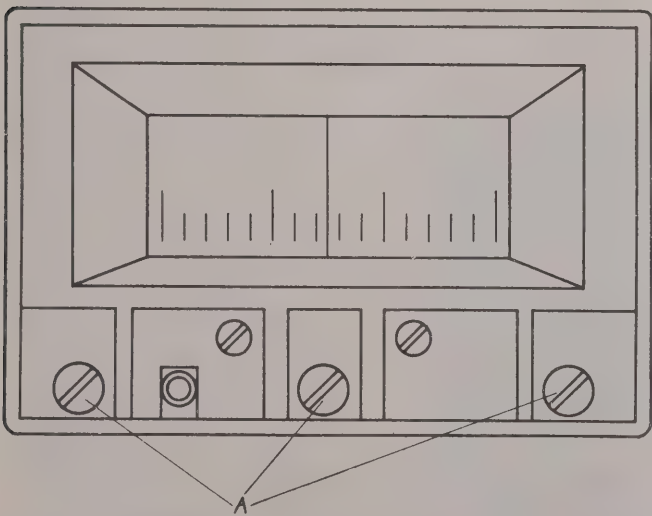

Fig. 1     Film guide
3. Slacken fixing screws (A) of the film guide and pull out the film guide towards the front (Fig. 1).
The main information for fault locating includes the circuit diagrams with entered measured values in the Circuit Diagrams part and the 'Fault Elimination' part, as well as the test plan (annexed Figs. 1 and 2). If the actually observed kind of fault is mentioned in the following fault location table, a course of action according to the information given there often considerably reduces the fault location time. Observations made by the user may be entered at the end of these tables. We would appreciate very much to receive such supplements and are gladly prepared to duplicate them for the benefit of others.
"▼I", "▼II" and measuring wideband (T2 pushed) and selective (T3 or T4 pushed) are not possible	According to annexed Fig. 1